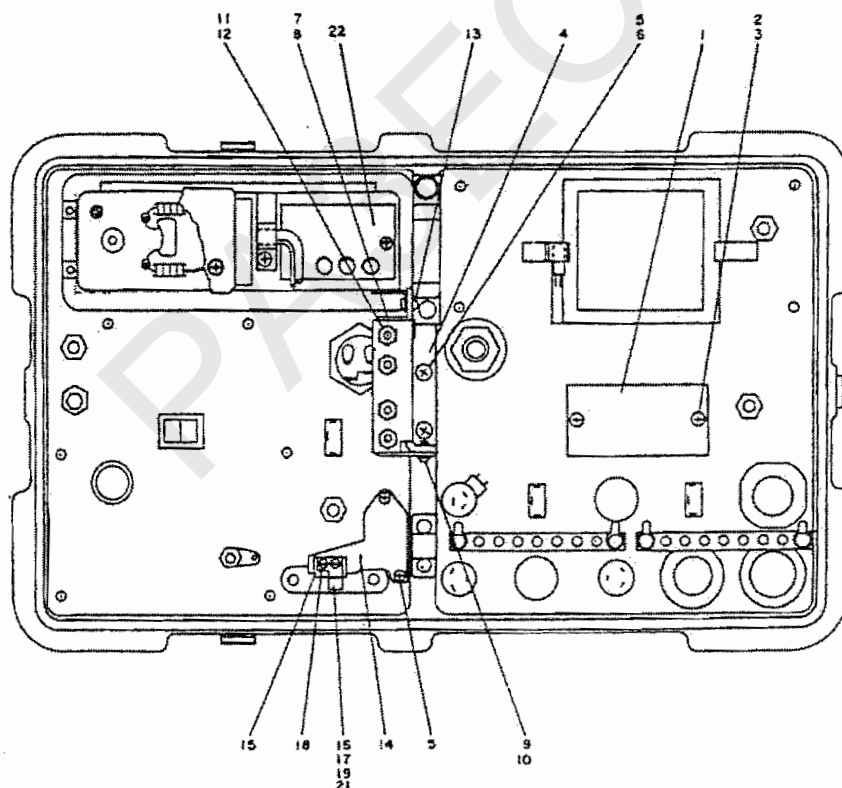

Figure 5-18. Back Panel Assembly
## 5.22 Relay Mounting Bracket 1A1A3 Parts Removal and Replacement (Refer to figure 5-18)
- (1) A pink 30 circle indicates that the dessicant will soon require replacement.
- (2) A pink 40 circle indicates that the dessicant requires replacement.
- (3) A pink 50 circle indicates that the dessicant indicator requires replacement.
- (4) Overlap of the circles indicates that the equipment requires examination for humidity damage.
c. Dessicant Indicator Removal (figure 5-18).
- (1) Remove screw and washers.
- (2) Remove indicator holder (20).
- (3) Remove indicator (22) from holder.